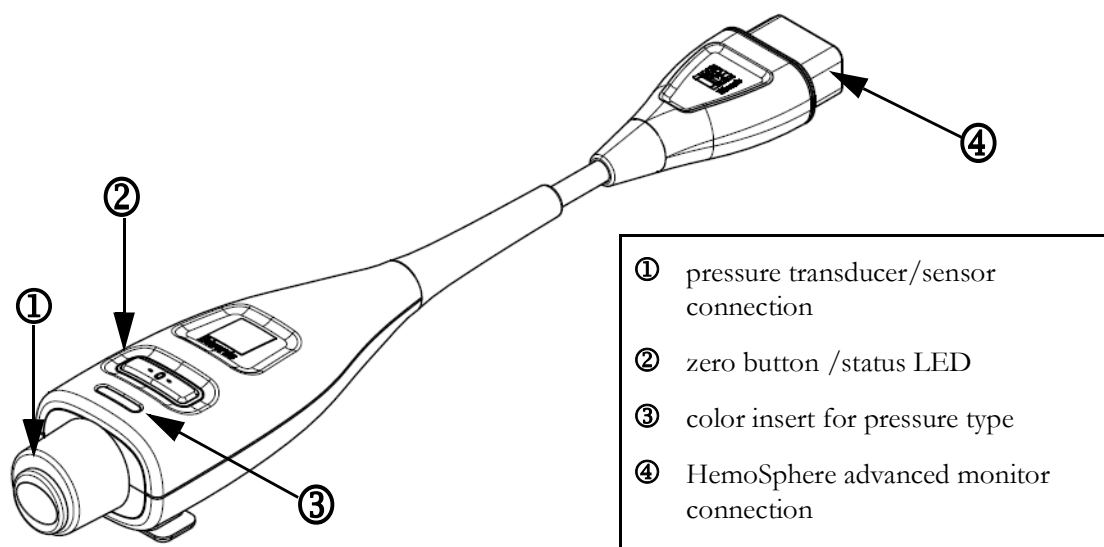

Figure 10-1 HemoSphere pressure cable
The HemoSphere pressure cable is a reusable device that connects with the HemoSphere monitor on one end ④ and any approved single Edwards disposable pressure transducer (DPT) or sensor on the other end ①. See figure 10-1 on page 166. The HemoSphere pressure cable acquires and processes a single pressure signal from a compatible Edwards DPT, such as the TruWave DPT, or a FloTrac sensor. A FloTrac or Acumen IQ sensor connects to an existing arterial catheter to provide minimally invasive hemodynamic parameters. A TruWave transducer can connect to any compatible pressure monitoring catheter to provide location based intravascular pressure. Refer to the directions for use provided with each catheter for specific instructions on catheter placement and use, and for relevant warnings, cautions and notes. The HemoSphere pressure cable can be monitored through two technology monitoring modes based on the paired sensor/transducer: **FloTrac** or **Acumen IQ** sensor monitoring mode or **Swan-Ganz** catheter monitoring mode. The monitoring mode appears on the top of the navigation bar (see figure 5-2 on page 84). The appearance and connection points for the HemoSphere pressure cable are shown in figure 10-1.
Pressure Type Color Insert. If desired, the appropriate color insert can be used on the pressure cable to indicate the monitored pressure type. See ③ in figure 10-1 below. The colors are as follows:
- Red for arterial pressure (AP)
- Green for cardiac output (CO)
- 7 Use a straight in or out motion to connect the green connector of the primed FloTrac sensor. The pressure cable LED that surrounds the zero button (see ② in figure 10-1) will flash green indicating that the pressure sensor is detected. A yellow light indicates a fault condition. If this occurs refer to the status bar for specific fault condition details.
Press the physical zero button  directly on the pressure cable and hold for three seconds (see figure 10-1).